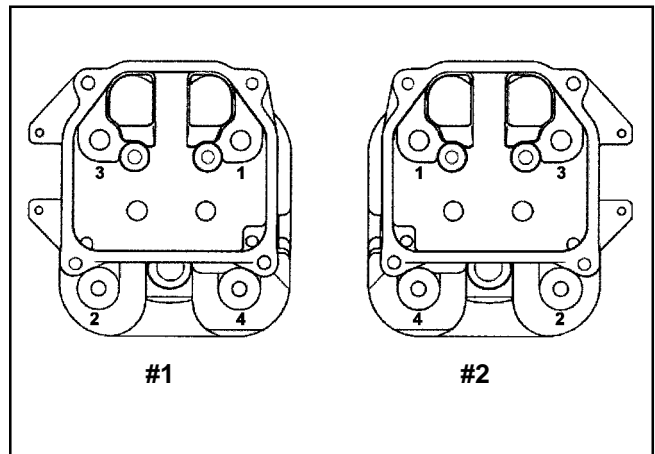

Figure 11-38. Cylinder Head Fastener Torque Sequence.
4. Torque the hex. flange screws in two stages; first to **22.6 N·m (200 in. lb.)**, then finally to **41.8 N·m (370 in. lb.)**, following the sequence in Figure 11-38.
6. Lightly lubricate the exposed (upper) threads of the studs with engine oil. Install a flat washer and hex. nut onto each of the mounting studs. Torque the hex. nuts in two stages; first to **16.9 N·m (150 in. lb.)**, then finally to **33.9 N·m (300 in. lb.)**, following the sequence in Figure 11-38.